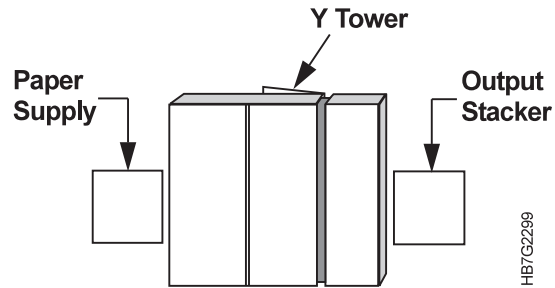

Figure 246. Right Side View of the InfoColor 70
- 2 Open the Y tower door on the left side of the machine, as shown in Figure 246.